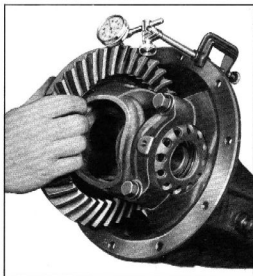

Fig. 13—Checking Ring Gear and Pinion Back Lash
4. Mount a dial gauge on the carrier and check the back lash between the ring gear and pinion, Fig. 13; this should be from .005" to .007". If the back lash is more than the above, loosen the right-hand adjusting nut one notch and tighten the left-hand adjusting nut one notch. If the back lash is less than above, loosen the left-hand adjusting nut one notch and tighten the right-hand nut one notch.